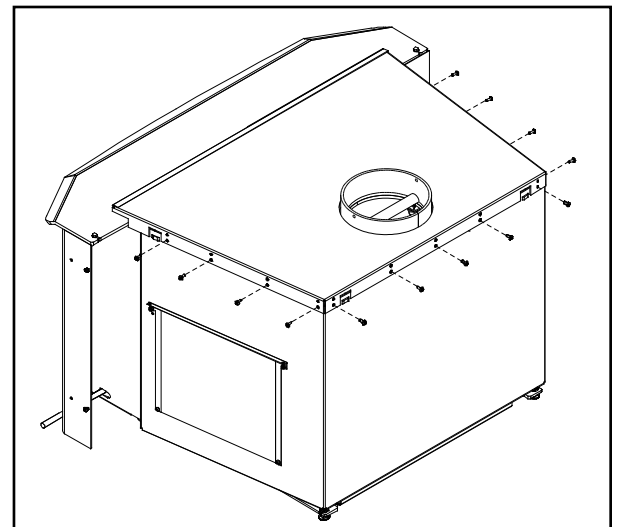

Figure 8: Removing Cabinet Top from Unit.
1. Remove the thirteen T-20 screws holding the cabinet top in place (refer to Figure 8).